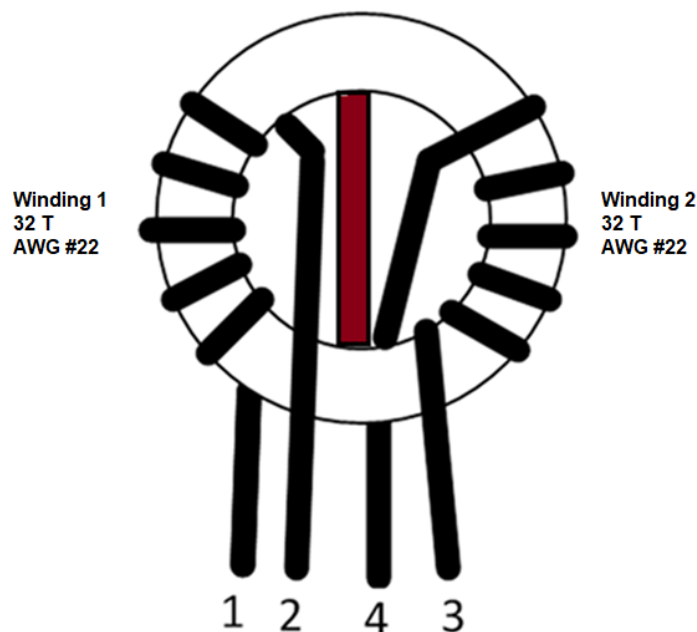

Figure 14 – Inductor Build Diagram.
1. Winding 1 - Wind 32 turns of item 2 as shown in figure 14.
2. Winding 2 - Wind 32 turns of item 2 as shown in figure 14.